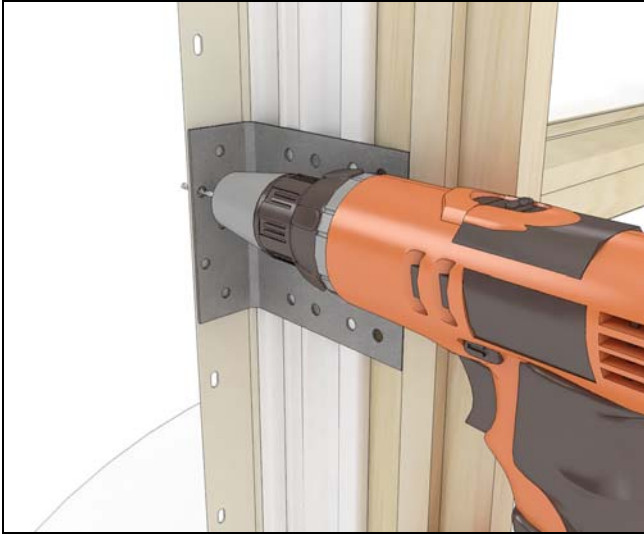

Figure 11
1. Use the screw holes in the mull clip as a guide to drill through the nailing fin with a 1/8" (3) drill bit. This will give you the location of the screw holes when you fasten the unit to the rough opening. See Figure 11.